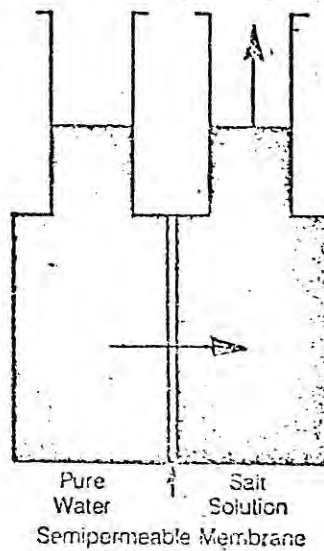

Fig. 1a/Osmotic Flow
- 1.1.1. To understand the principle of reverse osmosis first consider natural osmosis. At Fig. 1a below, pure water is separated from a salt solution by a semi permeable membrane through which water will pass, but dissolved salts cannot pass. —